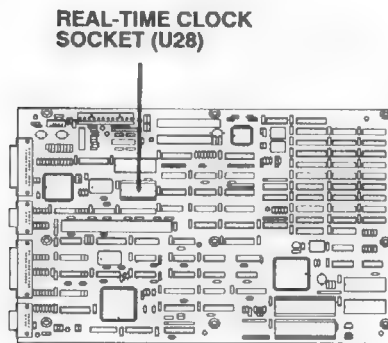

Figure 5. Real-time Clock Chip Socket Location
- ☐ If you have this option, and you are losing the date and time, make sure the clock chip is fully seated in the socket. Figure 5 shows the location of the clock chip socket. Also be sure you have CONFIG.SYS and CLOCK.SYS files in the root directory of the disk you use to start the system. The CONFIG.SYS also must contain the line